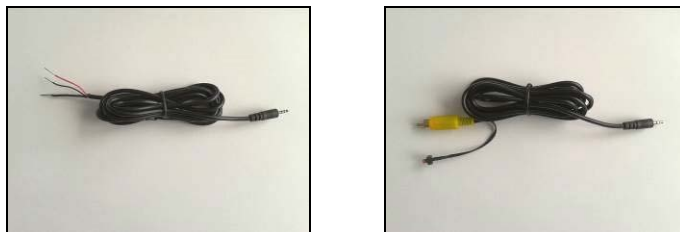

Figure 11: Video cable (**Order No.: ACPILKVCB2**) left and video cable (**Order No.: ACPILKVCB2C**) right
1. To start the recording remotely use the supplied video cable (**Order No.: ACPILKVCB2**), see **Figure 11** left: